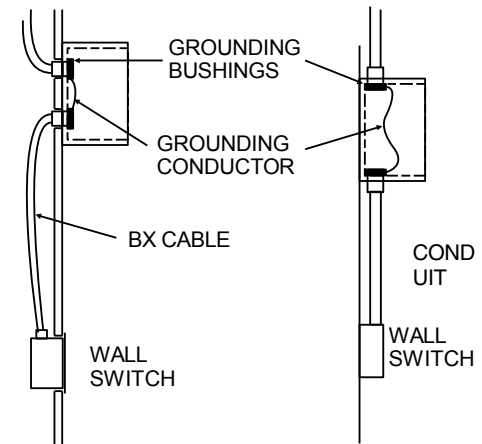

FIG 2
- d. Connect conduit as shown in figure 2 and run wires.